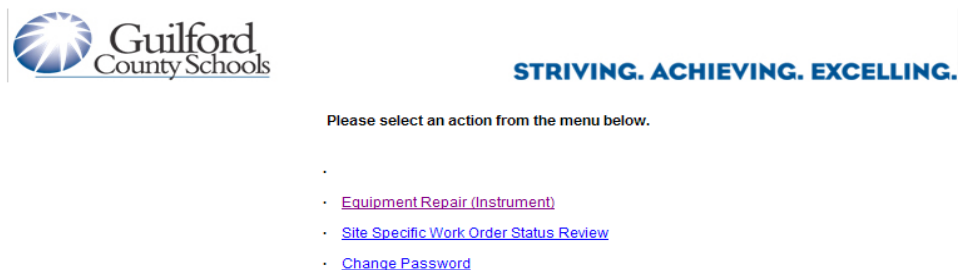

Figure 9 – After Login
4. Work Order Request Line Module. If you are a Music Director/Band Director and you log in successfully, the system will load a web form with the links shown below. (See Figure 9.)